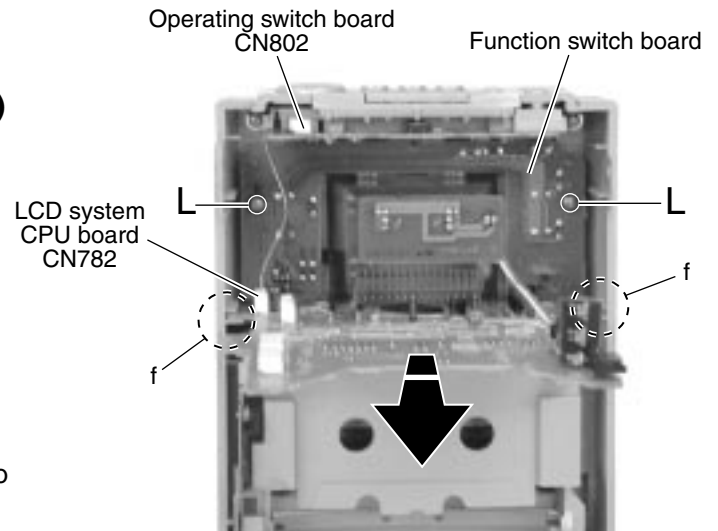

Fig. 18
■ Removing the function switch board and LCD system CPU board (See Fig. 18 and 19)